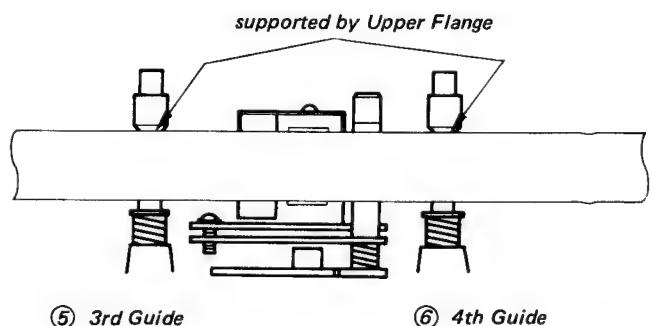

Fig. 5-116 Exit Side Tape Path
- Proceed Exit guide adjustment. (refer to Fig. 5-116)
### 5-b. Exit side adjustment (Fig. 5-116)
2. The tilt adjustment screw ⑤ should be adjusted by a half quarter turn since the audio/control head assembly is adjusted critically in the vertical angle.
3. Do not tighten the 4th guide ⑥ too much since the audio level should be varied easily. (see Fig. 5-116)